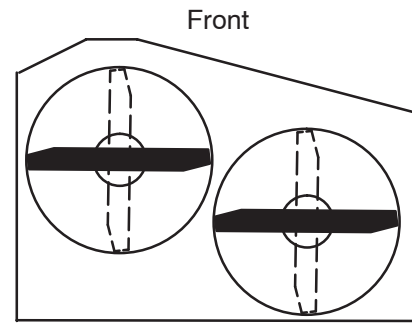

Figure 23
1. Rotate the blades until the ends face forward and backward (Fig. 23).